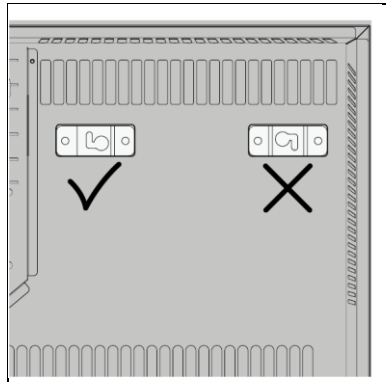
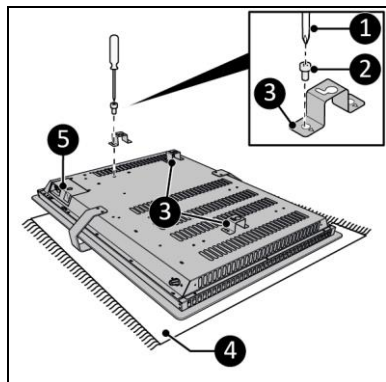

Figure 10
Figure 11
11. Before installing the brackets on the device, double check the orientation (Figure 10).
12. Lay the device down on a soft steady surface (Figure 11, pos. 4).
13. Screw and tighten three brackets (Figure 10, pos. 1) on both sides of the main body (Figure 11, pos. 5) with a small screw (Figure 11, pos. 2) using a Phillips screwdriver (Figure 11, pos. 3).